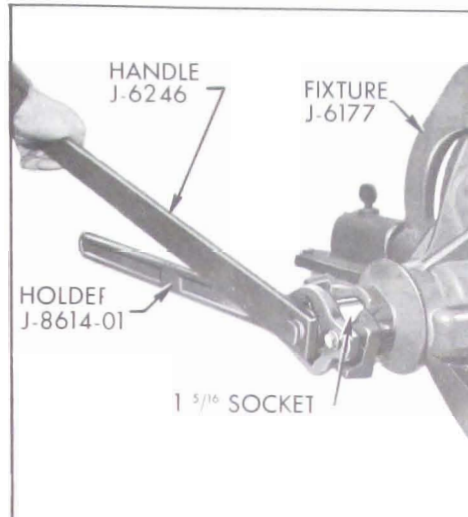

Fig. 6-58—Removing Pinion Nut
2. Install Holder J-8614-01 on pinion flange using two 5/16-18 x 2 bolts with flat washers. (On 49000, install Holder J-8614-01 on pinion flange using Adapters J-21619.) Remove pinion nut using a 5/16 (3/4 drive) socket on Handle J-6246. Remove washer. See Figures 6-58 and 59.